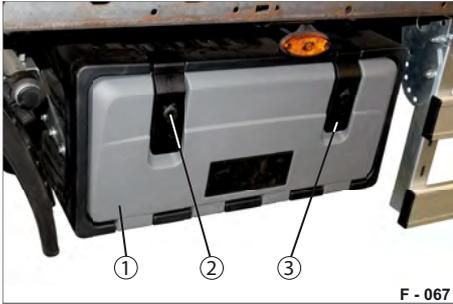

Fig. 97 Toolbox closed
- ▶ Remove the covers (Fig. 97/2) from the lock cylinders and close the lid (Fig. 97/1) with the key (Fig. 99/1).
- ▶ Lock with the key (Fig. 99/1) and fasten the cover over the key cylinder (Fig. 97/2).